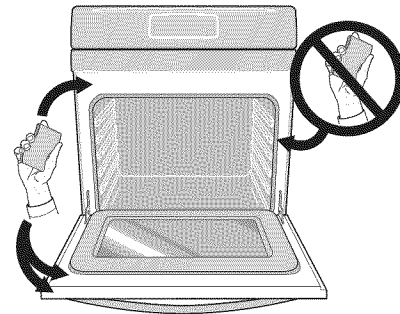

Figure 40: Oven door area to clean and not clean (gasket).
- Clean any soil from the oven frame, the door liner outside the oven door gasket and the small area at the front center of the oven bottom (Figure 40). These areas heat sufficiently to burn soil on. Clean using soap and water prior to starting Self Clean.
- Do not clean the oven door gasket (Figure 40). The woven material of the oven door gasket is essential for a good seal. Care should be taken not to rub, damage or remove the gasket. Do not use any cleaning materials on the oven door gasket. Doing so could cause damage to the door gasket.